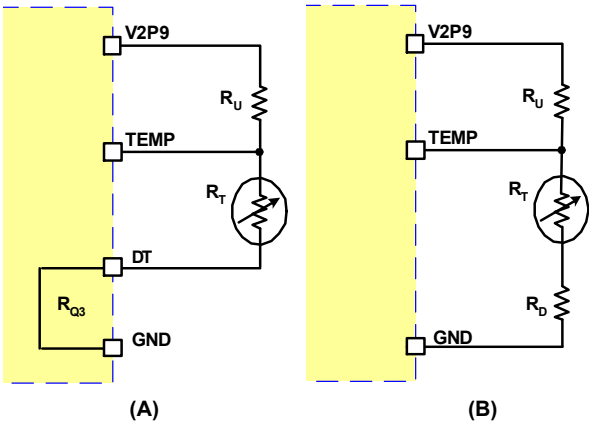

FIGURE 7. EQUIVALENT CIRCUITS FOR THE NTC DIVIDER
create a hysteresis for each comparator respectively. The DT pin is shorted to GND via the internal Q3 MOSFET when the charger is not charging, resulting in the equivalent circuit shown in Figure 7 (A). The on-resistance of Q3 is typically 50Ω and is negligible compared to the external resistors. When the charger starts to charge, Q3 is turned off to set a higher temperature range determined by the external resistor RD. The equivalent circuit is shown in Figure 7 (B). The DT pin allows the user to set up a higher shut down ambient temperature after the charger starts up.